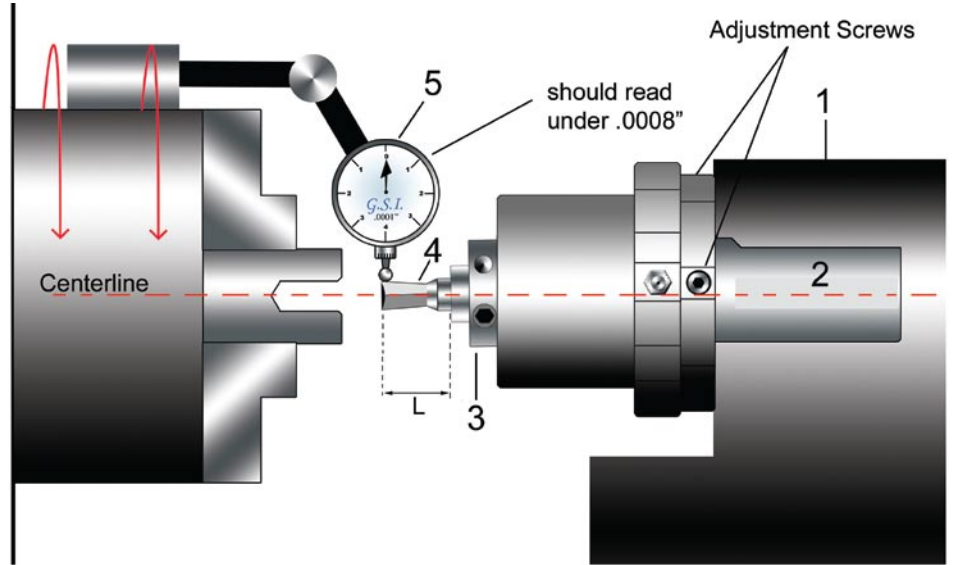

FIG 4
Adjustment for center on the machine offers the advantage to correct misalignment between the machine spindle and the turret bore. With the gage pin (4) set to the proper "L," set the broach head in the turret station (1) to be used for broaching. Set the indicator (5) onto the spindle chuck with a magnetic base. Place the indicator tip on to the end of the gage pin. Rotate the chuck so that the indicator sweeps the diameter of the pin and adjust accordingly using the adjusting screws (see fig. 4).